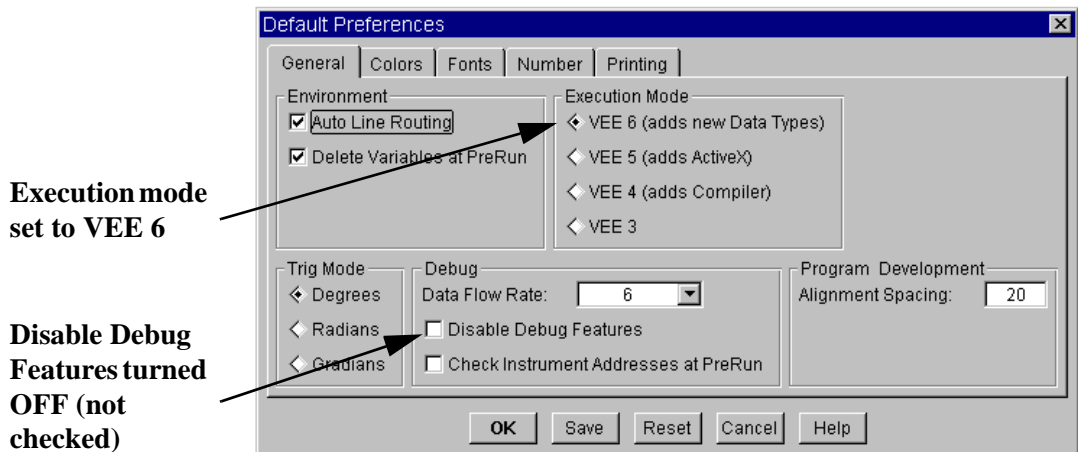

Figure 9-12. Changing the Execution Mode in Default Preferences
2. In the **General** folder (already displayed, since it is the first folder), under **Execution Mode**, select **VEE 6.0** as shown in Figure 9-12. In the same folder, make sure that **Disable Debug Features** is *not* selected. Click **OK**.